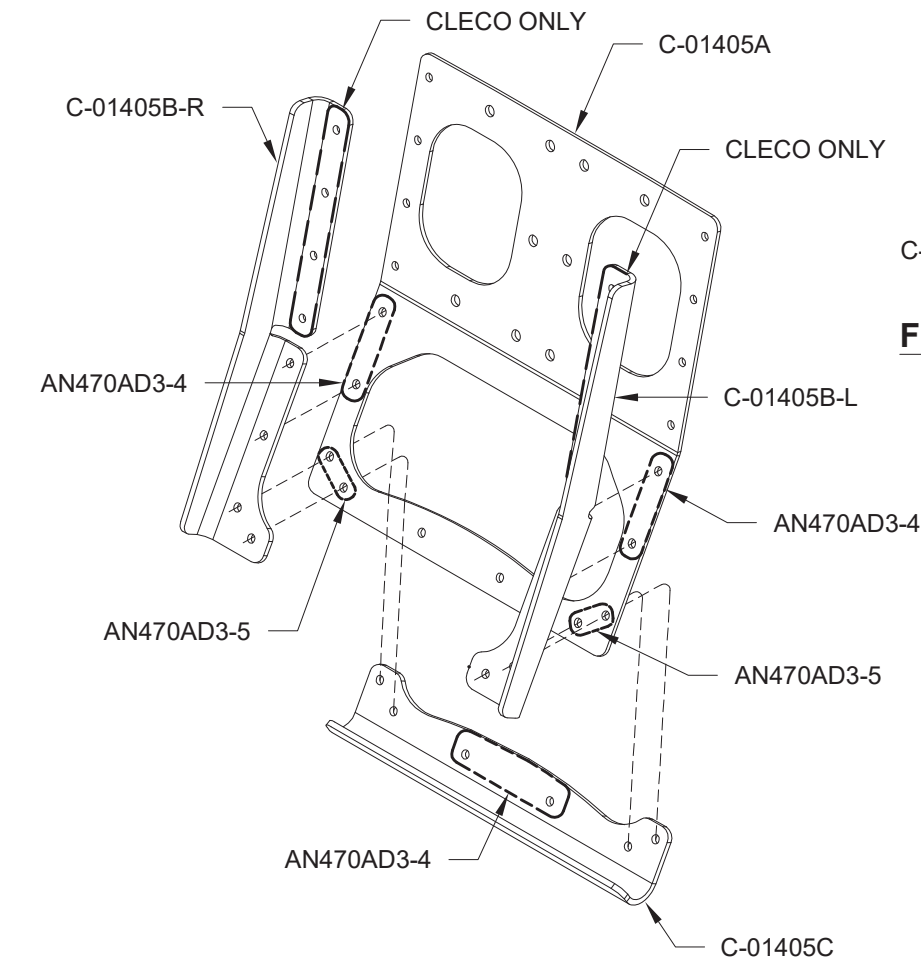

FIGURE 2: CANOPY HANDLE ASSEMBLY
Step 3: Cleco together the Canopy Handle Assembly and rivet where indicated in Figure 2.